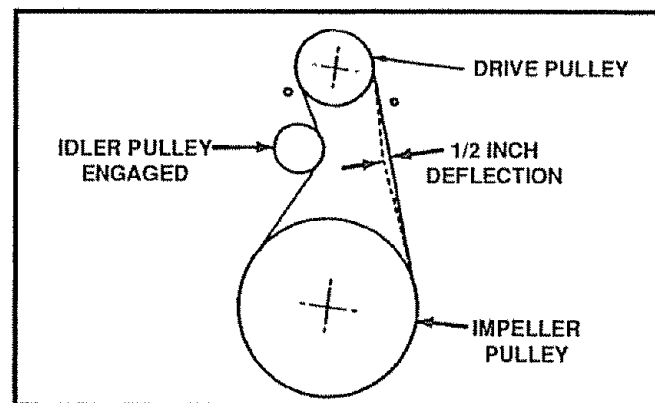

FIG. 27
- Loosen the nut on the idler pulley (See Fig. 27) and move the pulley toward the belt about 1/8".
- Press the auger drive lever. Check the tension on the belt (opposite idler pulley). The belt should deflect about 1/2" with moderate pressure (See Fig. 27).